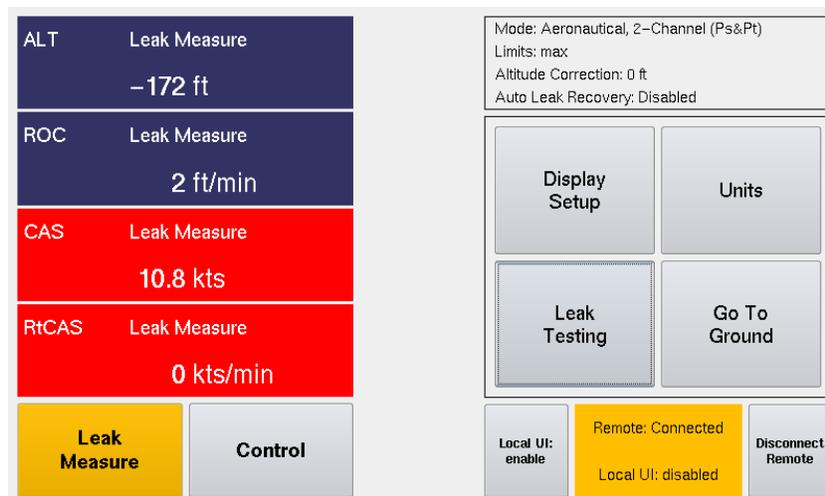

Figure 2.8 Remote Terminal Screen
g) The remote terminal window, which is identical to the DP1000/1811NG display, opens (Figure 2.8). The unit is now ready for testing through the tablet app.